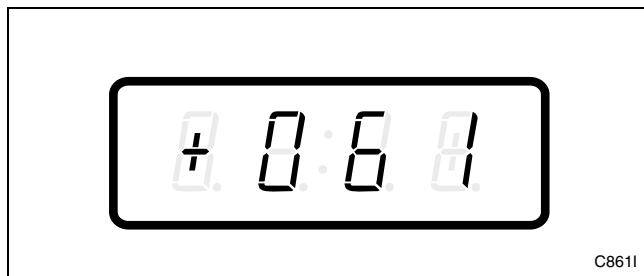

Figure 211
3. Press the LOW TEMP (+) or the NO HEAT (-) keypad to scroll through the programmable options until “+061” appears in the VFD. Refer to *Figure 211*.